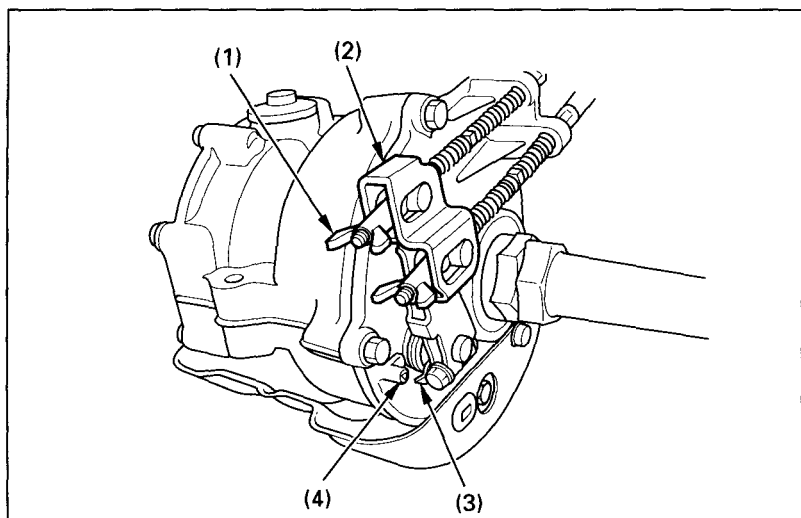

Fig. 4-27 (1) Brake lever adjusting nut (3) Arrow
When the brake is applied, an arrow (3) attached to the brake arm (2) moves toward a reference mark (4) on the brake panel (see Fig. 4-27).